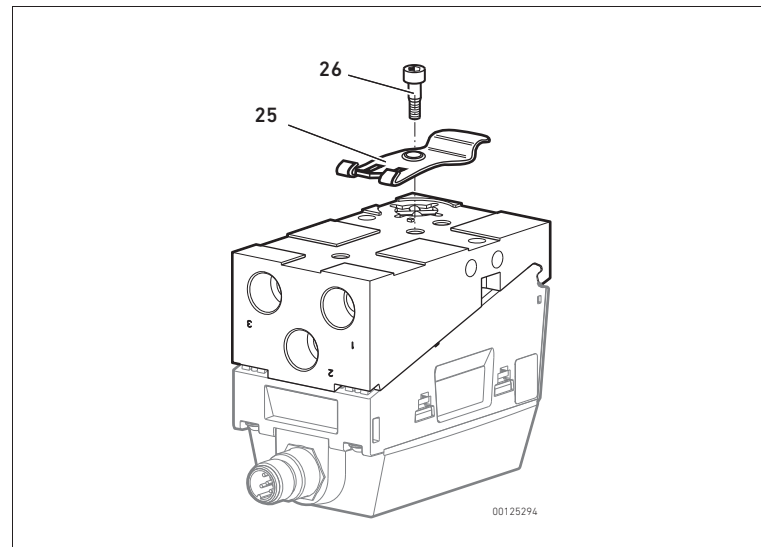

Fig. 8: Mounting kit for rail assembly
- 1 mounting plate (25)
- 1 cylinder head screw (WS 4) (26), tightening torque: 1 Nm
1. Assemble the mounting kit as shown in Fig. 8.